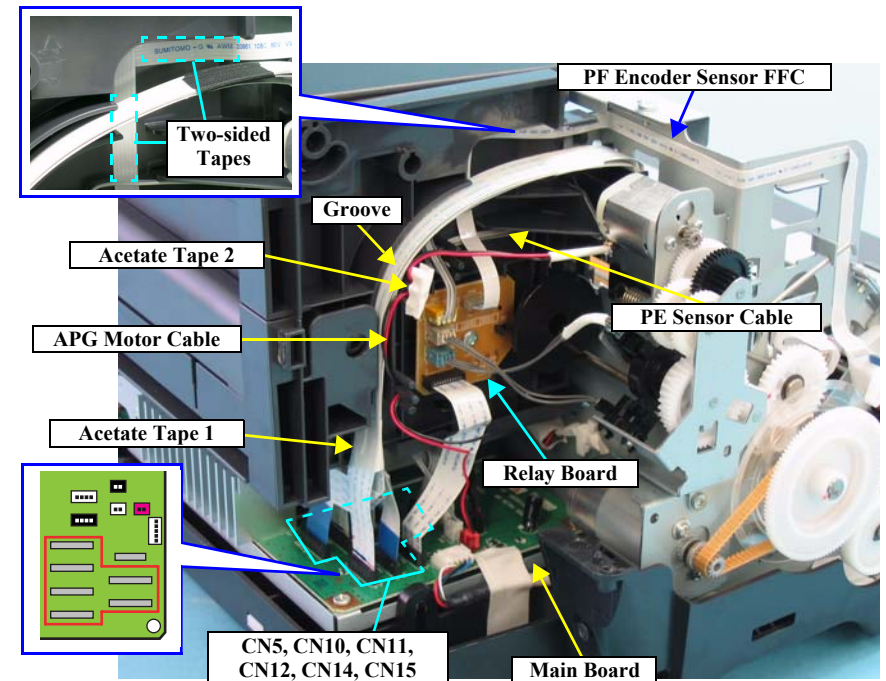

Figure 4-28. Releasing the Cables (2)
- Referring to Figure 4-28, route each of the Cables and FFCs.